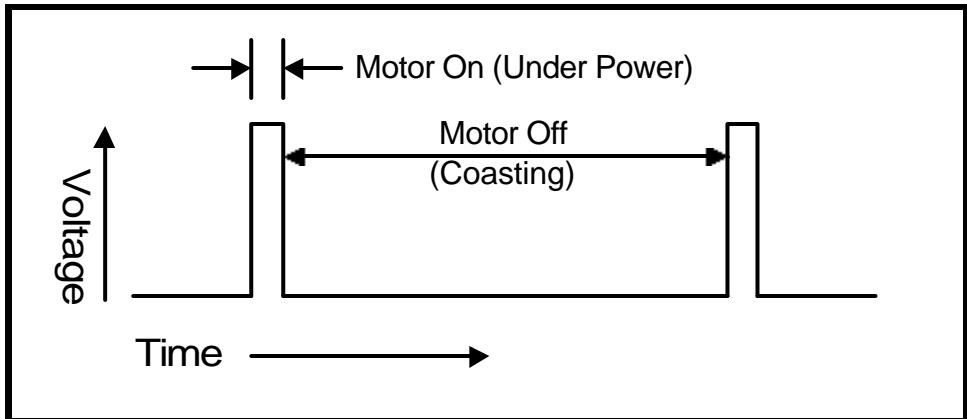

Figure 1
**Figure 1** shows the voltage supplied by a decoder running a motor slowly. As you can see the motor is getting power only a very small percentage of the time. The pulses are supplied to the motor at a fast enough rate so that the motor will coast between pulses giving the appearance of continuous smooth